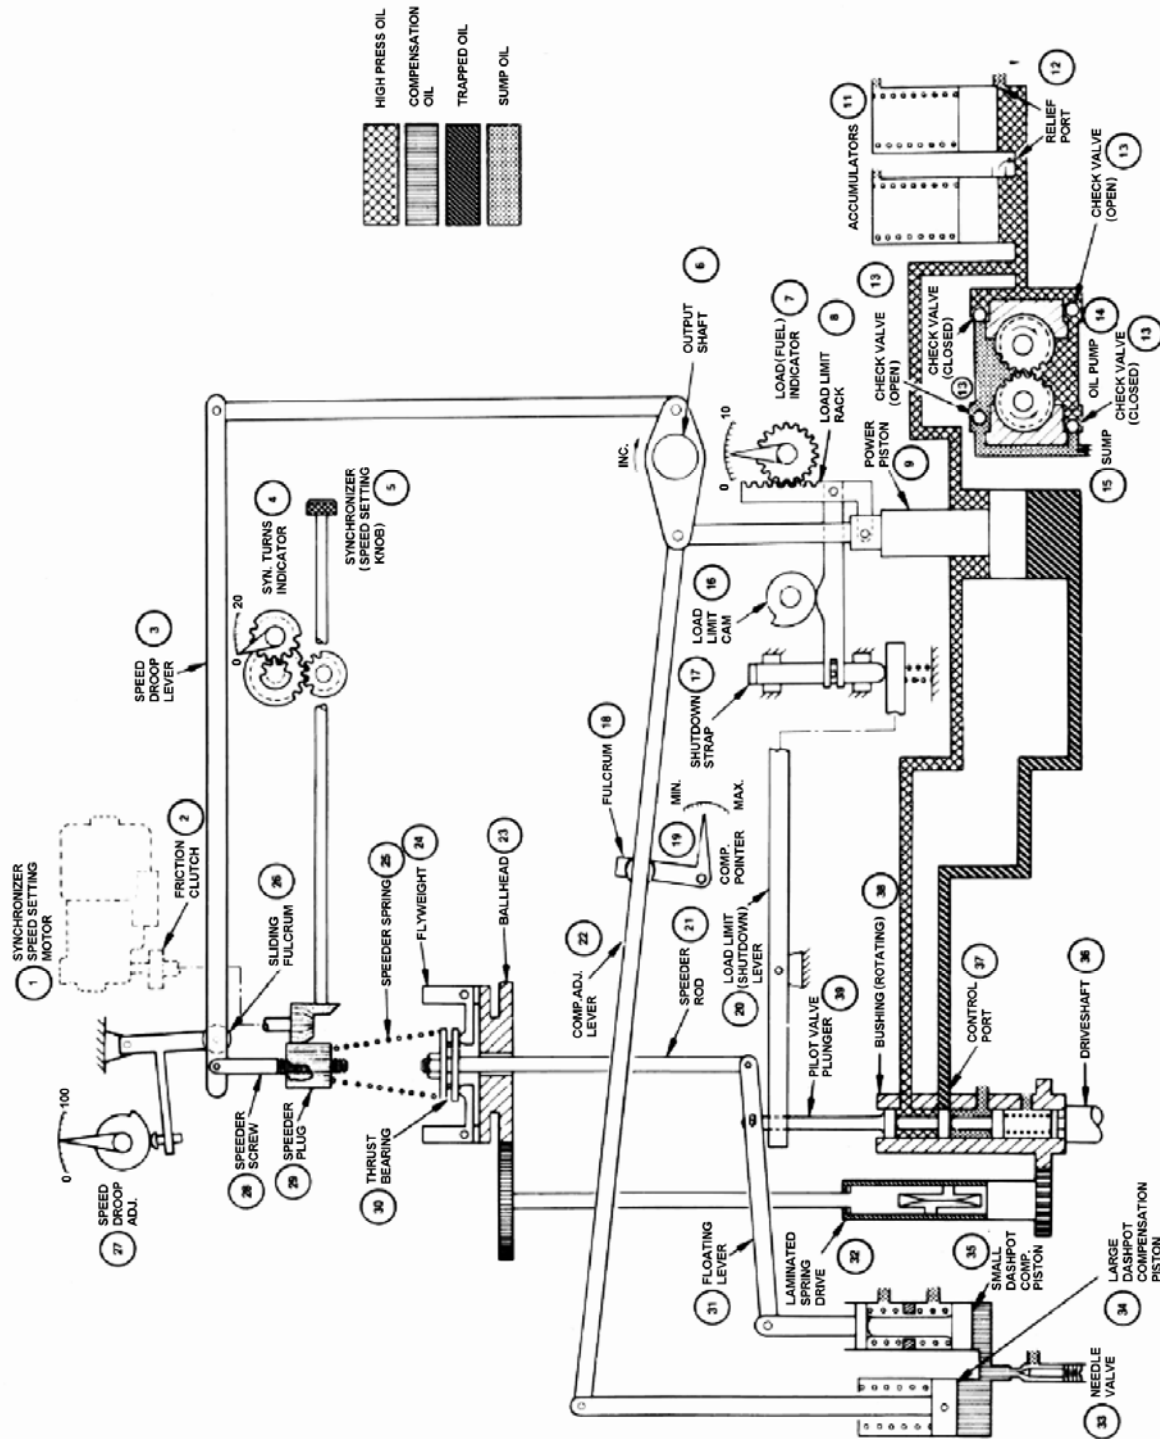

Figure 3-1. UG-15 Dial Governor Schematic Diagram
Along with the text, a schematic diagram (Figure 3-1) is provided for visual means of understanding the operation of the UG-15 Dial governor. This schematic shows a basic design and does not include any auxiliary equipment.
When the pilot valve plunger (39) is lowered, high pressure oil flows under the power piston (9), raising it. When the pilot valve plunger is raised, oil is released to sump from under the power piston (9), lowering it. The higher pressure on top of the power piston(9) forces the piston down. When the pilot valve plunger (39) is in its centered position, the control land covers the control port as shown in the schematic (Figure 3-1), and there is no movement of the power piston.
The compensation system includes a large dashpot compensation piston (34), a small dashpot compensation piston (35), a floating lever (31), a compensation adjusting lever (22) with a pivotable fulcrum (18), and a needle valve (33). See Figure 3-1.
Refer to Figure 3-1 with the text to better understand the operation of the UG-15 Dial governor. This schematic diagram is of a basic design and does not include any auxiliary equipment.